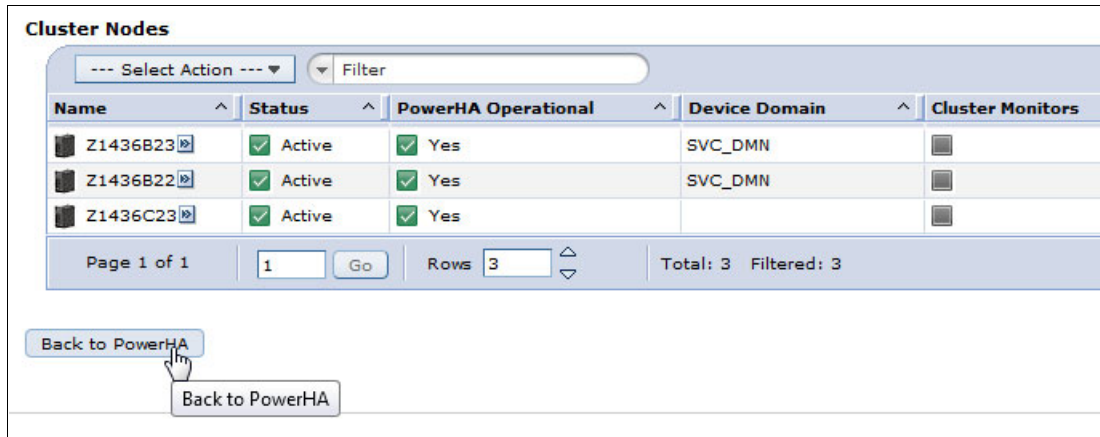

Figure 4-45 Three-node cluster: Node overview
- As shown in Figure 4-45, our example now has a three-node cluster. The third node was not added to the device domain. You can add the node manually to the device domain or PowerHA can handle this for you when the cluster node is added into the cluster resource group. Click **Back to PowerHA** to return to the main PowerHA menu.